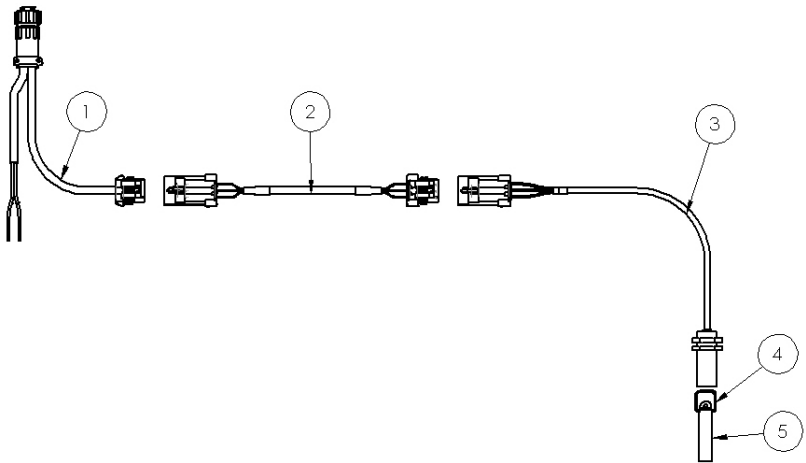
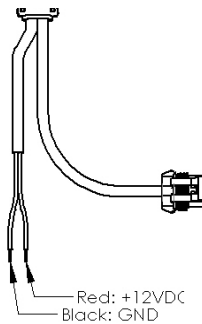

Figure 1: Hardware Diagram
Figure 4: RC Sensor "Y" Cable Power Connection
6. Bracket- RC Sensor Mounting (PN: 403014) –Not Shown in Figure 1
6. Connect supplied cabling as shown in Figure 1 and wire RC Sensor "Y" Cable to power supply as shown in Figure 4.